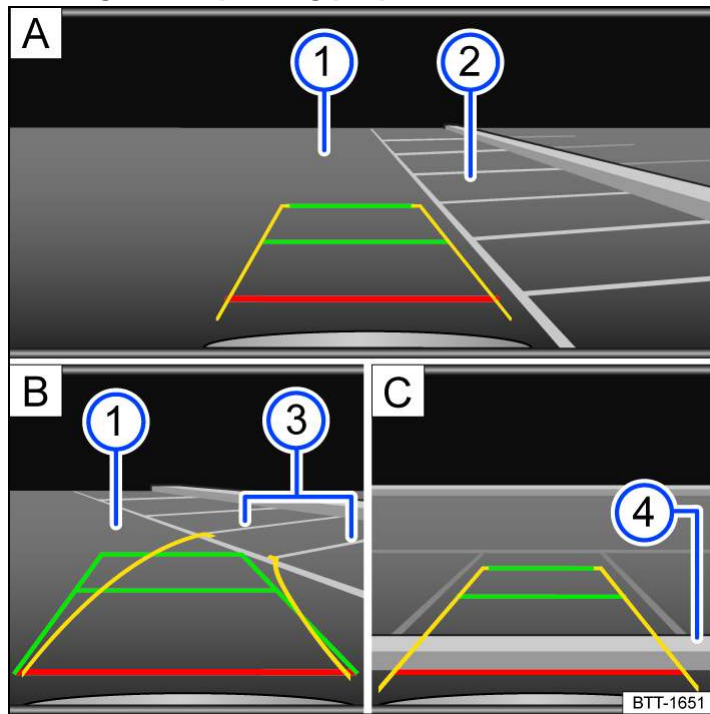

Fig. 1 Infotainment system: parking perpendicular to the road.
4. Position the vehicle in front of the parking space → Fig. 1 **A** 2.
5. Steer the vehicle so that the yellow lines lead into the parking space. The green and yellow lines must be aligned with the side limit lines → Fig. 1 **B** 3.